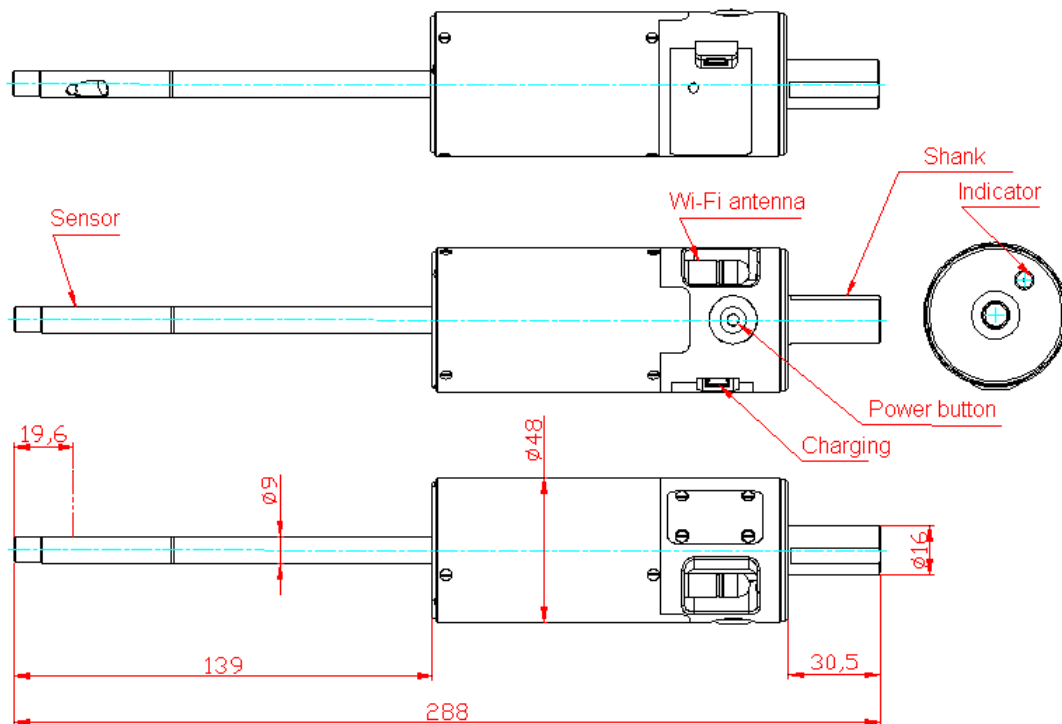

Figure 3.1. RF609-9/19-139-Wi-Fi.
Overall and mounting dimensions of the probes are shown in Figures 3.1.-3.2. The probe contains a connector for connecting a charger, a shank for installation in a collet chuck, a power button and an operation indicator. The length of the probe can be changed upon request.
Use the shank to install the probe in the collet chuck, see Figures 3.1. and 3.2. The diameter of the controlled hole must match the working range of the probe.
- Switch on the probe by pressing the power button, see Figure 3.1.